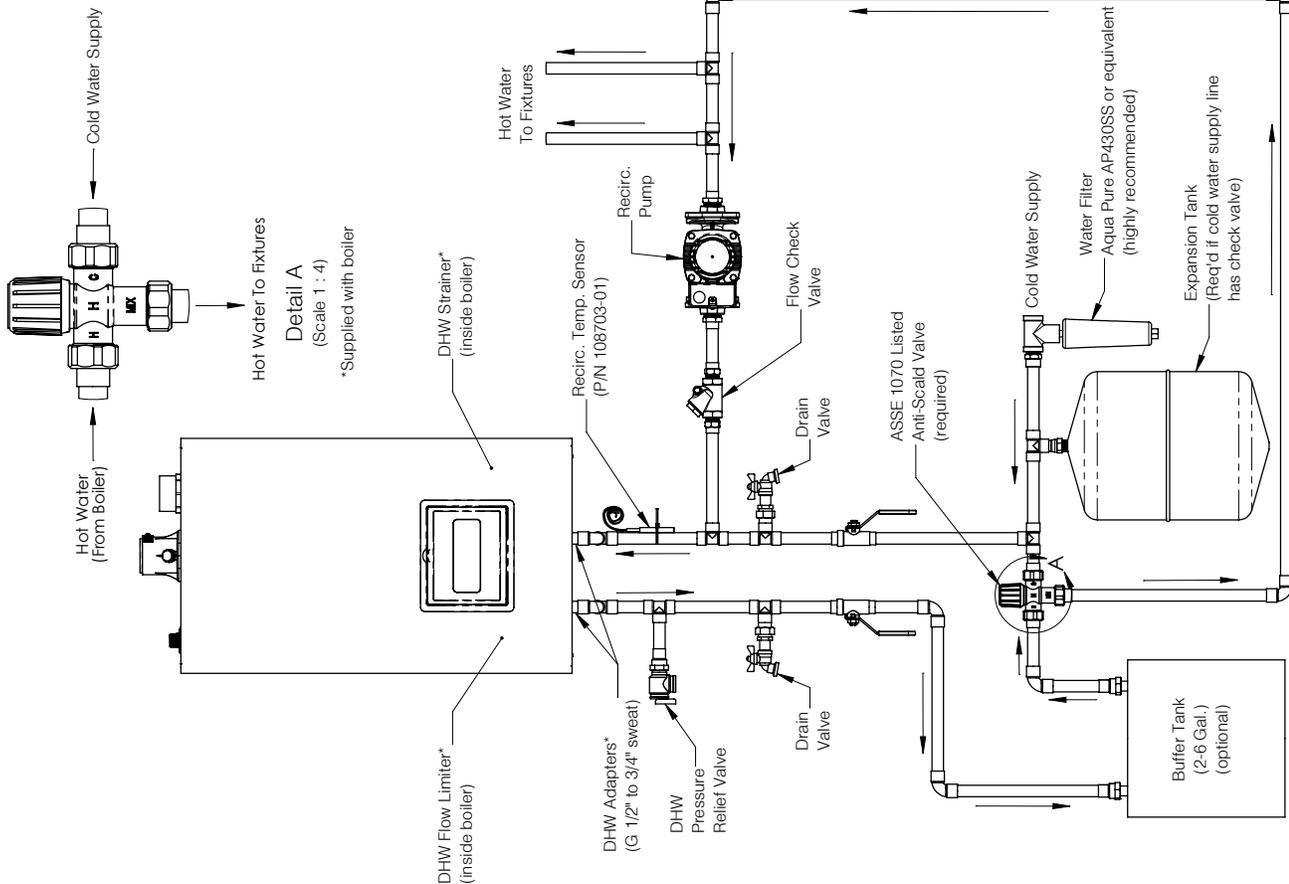

Figure 11-3: DHW Piping with Recirculation
When recirculation line is installed as shown in Figure 11-3, a small (2-6 gal) potable water storage tank may be installed as shown. Reduces burner cycling during very small DHW demands and also helps minimize temperature fluctuations. An unpowered storage electric water heater is ideal for this application.
- E. Recirculation (Header) Temperature Sensor- When optional sensor is installed and Recirculation (Comfort) Mode is enabled, boiler will attempt to maintain target domestic hot water recirculation temperature in recirculation piping. Use only Honeywell 32003971-003 (P/N 108703-01) sensor. Locate sensor as shown in Figure 11-3. Wire sensor using a 2 conductor, UL Type CM, AWM Style 2092, 300Volt 60°C shielded cable. Connect one end of shielding on this cable to ground. See Table 16-11 for information on enabling recirculation sensor.